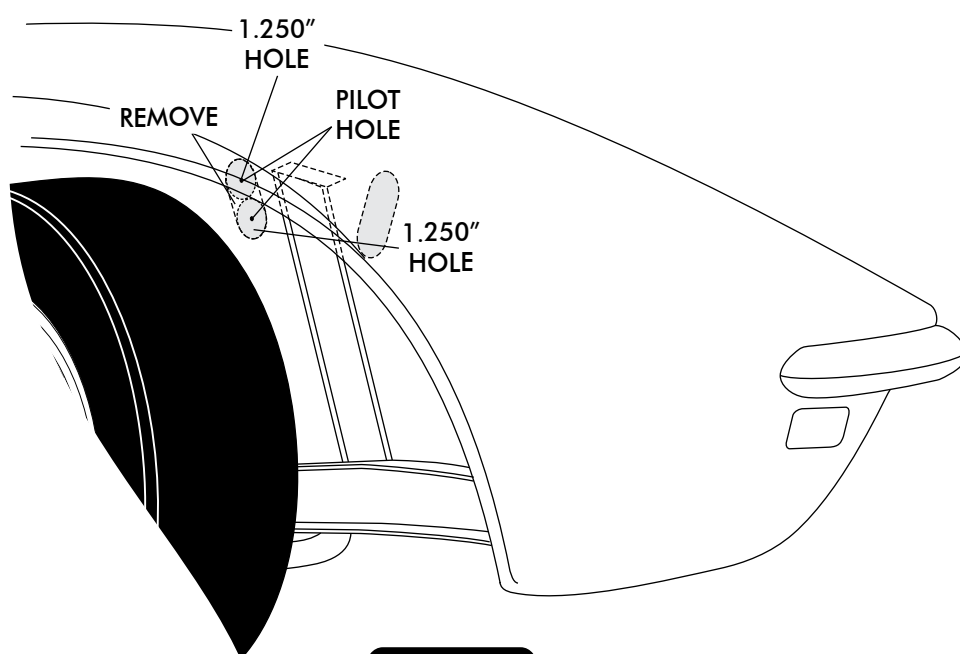

FIGURE 6
- ☐ FROM UNDER THE FENDERWELL USE A 1.250" HOLE SAW AND ALIGN THE DRILL BIT WITH THE PILOT HOLES AND CUT OUT THE TWO HOLES AS SHOWN IN FIGURE 6 BELOW.
- ☐ ONCE THE HOLES ARE MADE USE A STRAIGHT EDGE AND MARK A STRAIGHT LINE FROM THE EDGE OF ONE HOLE TO THE OTHER AS SHOWN IN FIGURE 6.
- ☐ CUT ALONG EDGES AS SHOWN AND REMOVE THE CENTER PORTION BETWEEN THE TWO HOLES. SEE FIGURE 6.